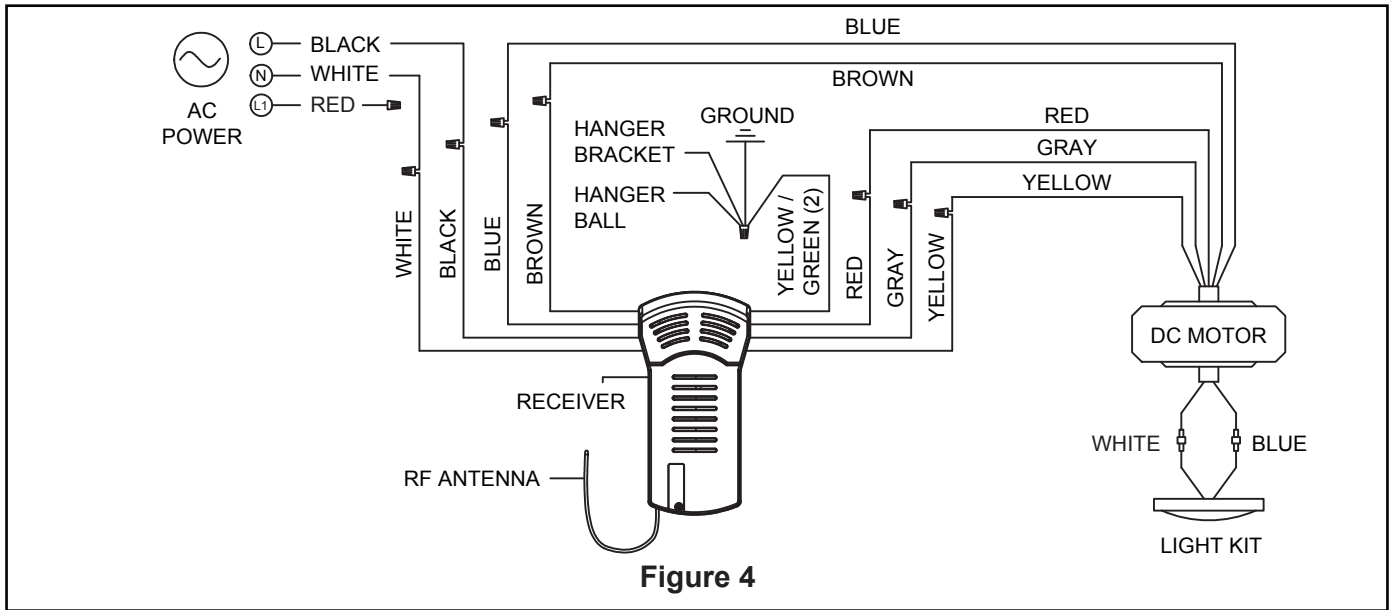

Figure 4
4. Slide downrod into the downrod support on top of the motor. Install the clevis pin by aligning the holes in the downrod support with holes in the downrod. Secure clevis pin with hairpin clip. Tighten the two set screws with nuts in the downrod support. (Figure 4)
- 4.** Carefully lift the fan and seat the downrod/hanger ball assembly onto the hanger bracket that was just attached to the outlet box. Be sure the groove in the ball is lined up with tab on the hanger bracket. (Figure 4)
- 5.** Attach the safety cable to ceiling support cable. Slide cable clamp and washer onto safety cable (from fan). Place the end of cable through the loop of ceiling support cable. Pull as much cable through loop as possible. Feed end of cable into clamp hole and firmly tighten screw. (Figure 4)
3. Connect wires using connectors as shown in Figure 4.
- 4. Assemble the LED assembly to the light kit assembly using the screws removed in Step 3A. (Figure 4)
- 4. To make fan operational, install two 3V batteries (included) in hand-held remote transmitter, with fan power off. Then, follow the remote code setting process. If not used for long periods of time, remove battery to prevent damage to transmitter. Store the remote away from excessive heat or humidity. (Figure 4)